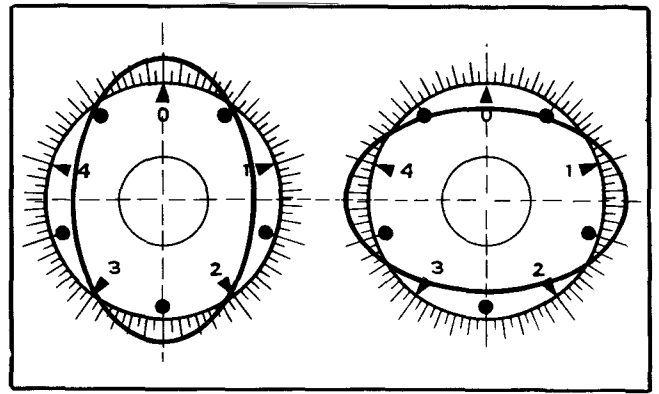

Figure 5-7. Circle Shape Adjustment
c. Adjust bottom tuning slug (secondary) of T203 until the two axes of the pattern are vertical and horizontal. (See figure 5-7.)
b. Adjust bottom tuning slug of T205 until the two axes of the pattern are vertical and horizontal. (See figure 5-7.)